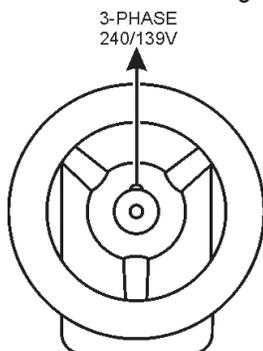

Figure 18. Voltage Selector Switch Wheel 3-Phase 240-139 Position
1. Place the voltage selector switch wheel in the 3Ø 240/139V position as shown in Figure 18.
1. Make sure the voltage selector switch wheel is in the 3Ø 240/139V position as shown in Figure 18.